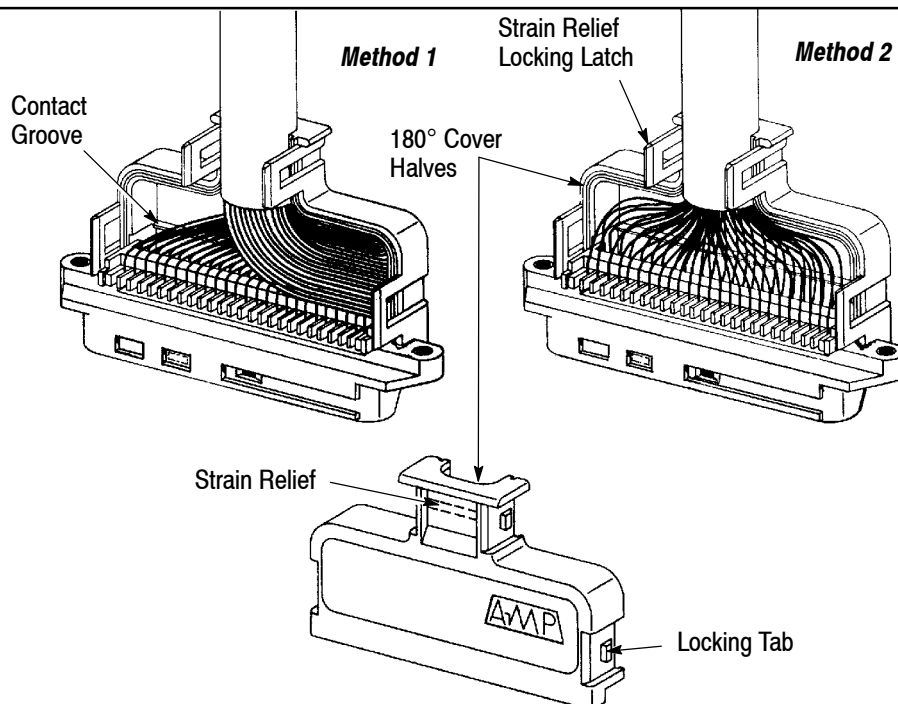

Figure 6
1. Gather the wires at the end of the connector that is nearest to the cable bundle. See Figure 6.